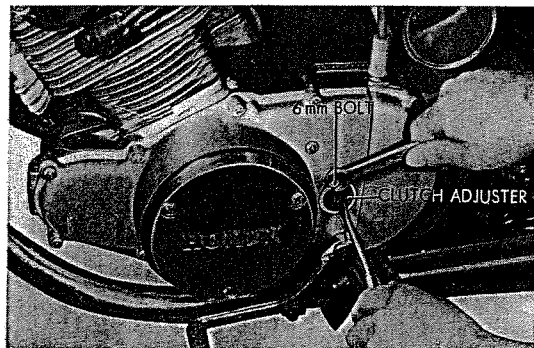

Fig. 6.28 Clutch adjustment
d. If correct adjustment cannot be made by the above, remove the 6 × 45 mm hex-head bolt and turn the clutch adjuster. If turned to the right, the clutch will become loose, and if to the left, tight. (Refer to Fig. 6.28)